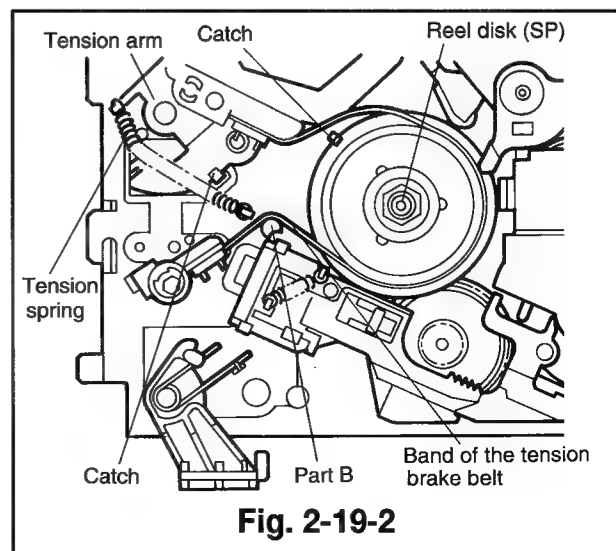
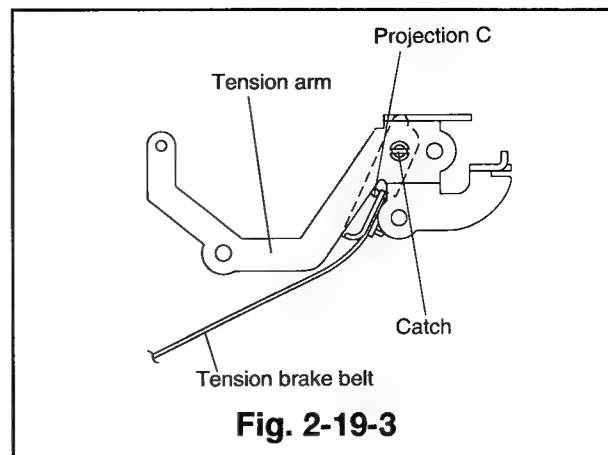
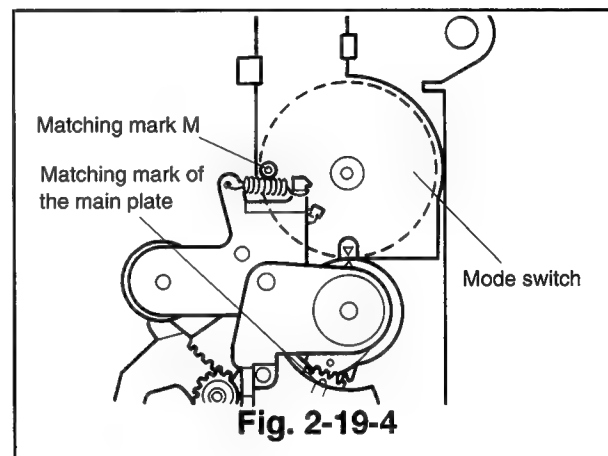
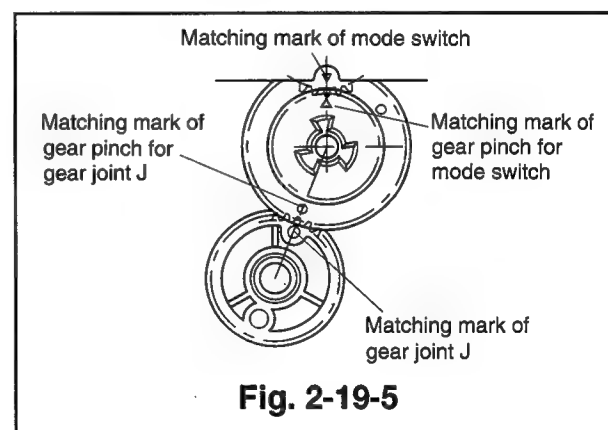

Fig. 2-19-2
Fig. 2-19-3
Fig. 2-19-4
Fig. 2-19-5
- ⑤ Remove the tension spring, unfasten the catch shown in Fig. 2-19-2, and raise the tension arm upward to remove it.
- ⑥ Reverse the tension arm, unfasten the catch with a tweezers as shown in Fig. 2-19-3 to remove the tension brake belt.
- ① Insert the catch in the position of the tension arm as shown in Fig. 2-19-3 to fasten the tension brake belt on the tension arm. (Take care not to let projection C, next to the catch of the tension brake belt touch the tension arm.)
- ② Install the tension arm, where the tension brake belt is fastened, on the main plate.
- ③ Fasten the tension brake belt around the supply reel disk. (The band of the tension brake belt must pass the outside of the catch shown in Fig. 2-19-2 and inside of the part B.)
- ④ Attach the tension spring.
- ⑤ Install the sub brake(SP) and sub spring(SP). (Refer to Para. 2-14 for the installation method.)
- ⑥ Supply voltage(approximately 5V), reversing the polarity used in ② of the Removal method, to set the motor to the unloaded position.
- ⑦ Make sure that the holes (matching mark M) on the body and cogwheel of the mode switch align with each other as shown in Fig. 2-19-4. At the same time confirm that the hole of the gear pinch aligns with the matching marks of the gear joint J and the ▽mark on the mode switch cogwheel, refer to Fig. 2-19-5. This indicates the J deck is in the EJECT mode.
- ⑧ If the deck is not completely set to the eject mode, turn part D of the pulley worm J by hand to set the eject mode.